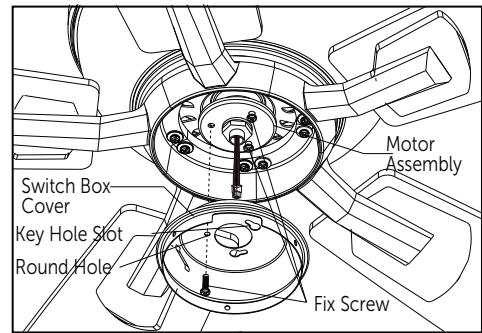

Fig. 12
12. Remove one fix screw (for later use), and loosen the other two fix screws. Thread the wire through the switch box cover, and then push the switch box cover upwards by inserting the other two fix screw heads into key hole slots, rotate the switch box cover till the round hole in switch box cover aligns with the hole in motor assembly, and finally, secure the switch box cover to motor assembly with previous fix screw and tighten the other two fix screws (Fig. 12).